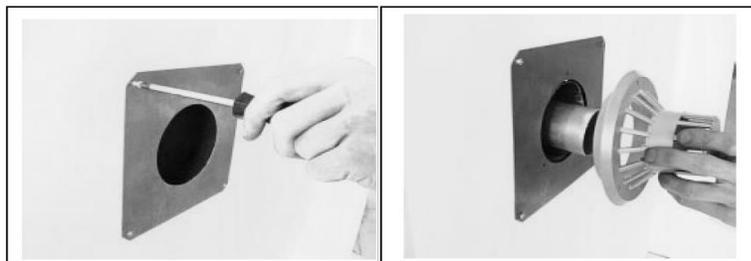

Figure 7
11. On the external side of the wall, install the protection plate in such a way that the centre of the hole in the plate matches the centre of the hole in the wall. First place the plate in the right position and mark the holes on the wall. Then, remove the plate and drill the holes in the wall. If the wall can receive self-tapping screws, drill 1/8-inch diameter holes. If not, drill 1/4-inch diameter holes and use the plastic anchors provided. Reposition the plate and fix it onto the wall with the four screws provided. (Figure 7 - Left).
12. Mount the vent cap on the flue pipe and fix it onto the external plate with the three self-tapping screws provided. (Figure 7 - Right).
1. Remove the vent cap by removing the three outer screws. (Figure 7)